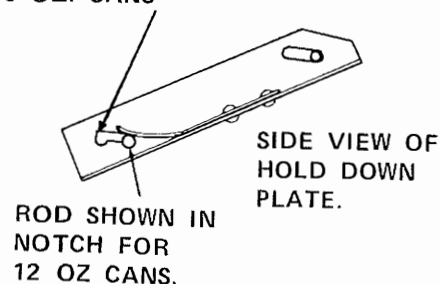

FIGURE 18
5. 10 oz./ 12 oz. Conversion (See figure 18)